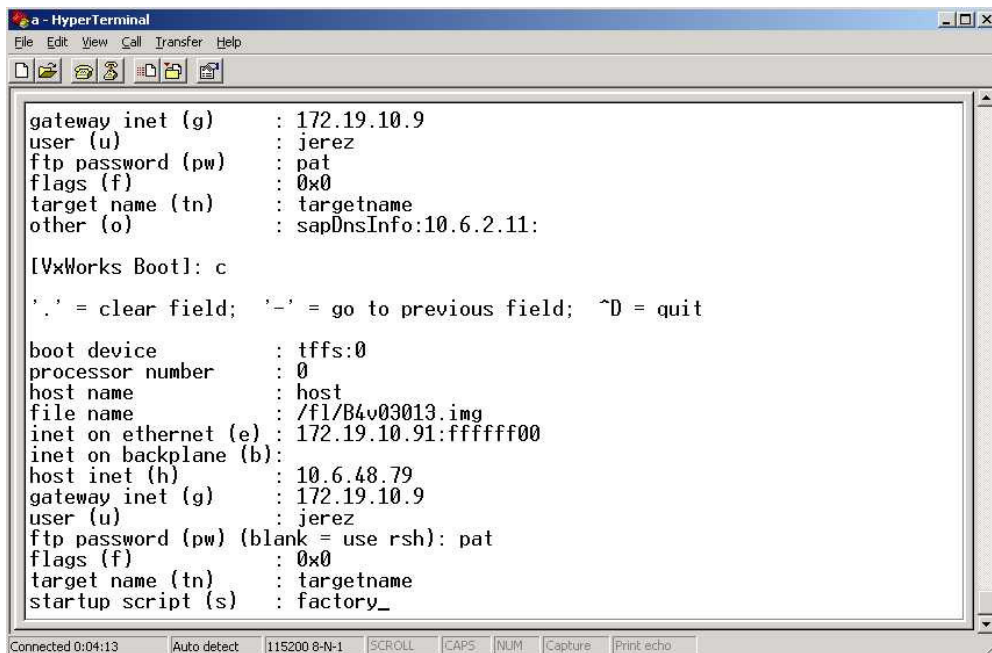

Figure 33. Enter command “**factory**” in startup script of BootROM
4. Type “**p**” to check if the setting is correct, as shown in Figure 33.